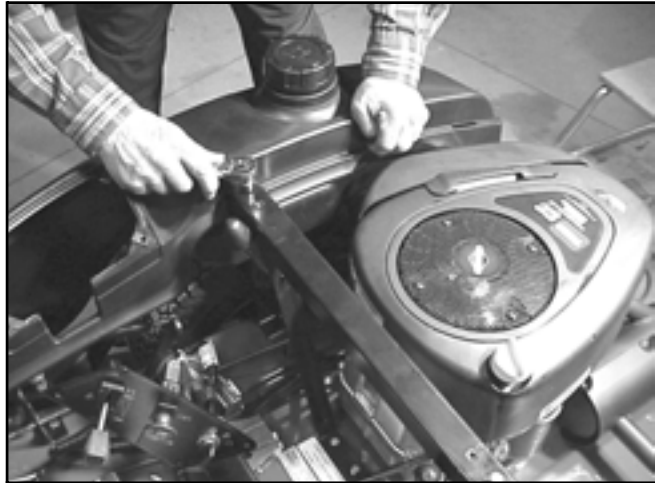

Figure 16
5. Remove the two bolts holding rear bracket support to the brace assembly (Figure 16).